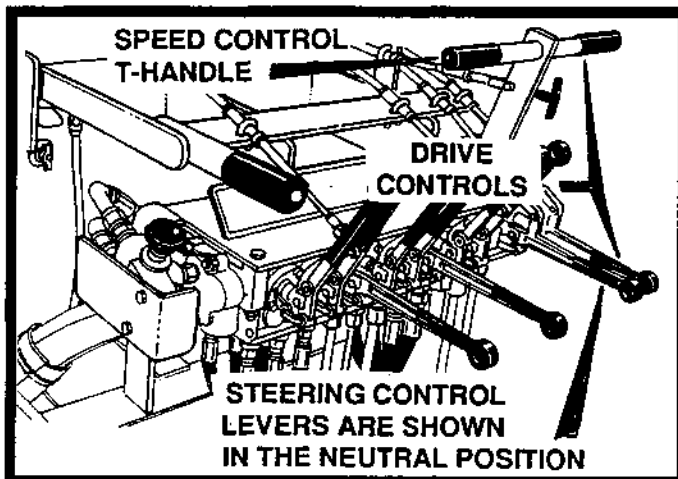

FIGURE 2
- D. Make sure steering control levers are in neutral. Pull Speed Control T-Handle all the way back. (When T-Handle is all the way back contact with safety switch is made). Turn ignition switch to the right to start. See Figure 2.